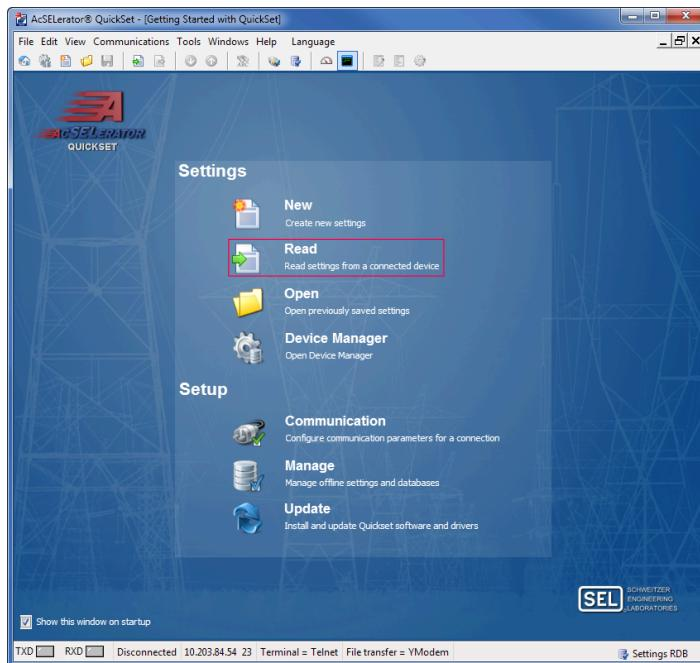

Figure 2.13 Welcome Screen
- Step 2. Now that the device is connected, click **File > Read** from the QuickSet Welcome Screen, select the **Read Settings From Device** icon (USB drive icon) in the toolbar, or select the **Read** text (see *Figure 2.13*) on the Welcome Screen.